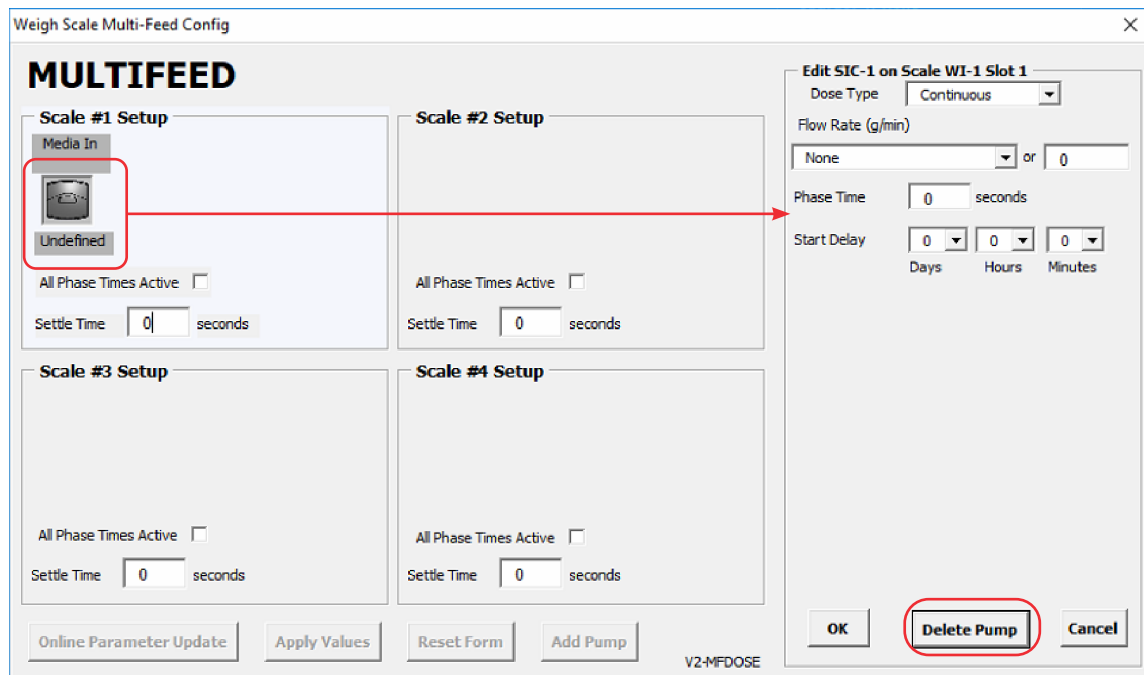

Figure 5.34. Delete Pump shown for Pump #1 on the Multi-Feed Configuration window.
2. Click the icon for the pump to be removed. Then click **Delete Pump** (Figure 5.34).